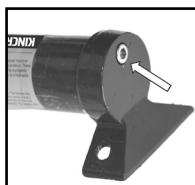
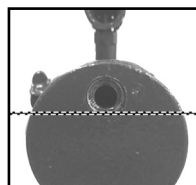

Fig.9
Fig.10
- b. Place pump assembly horizontally on a flat and leveled surface (Fig 9).
- c. Remove filler plug (Fig 9) and add high quality hydraulic oil such as Kincromes' K12400 (HYDRAULIC JACK OIL 500ML) until the oil reaches the bottom of the filler plug (Fig 10).
- d. Reinstall the filler plug (Fig 9)